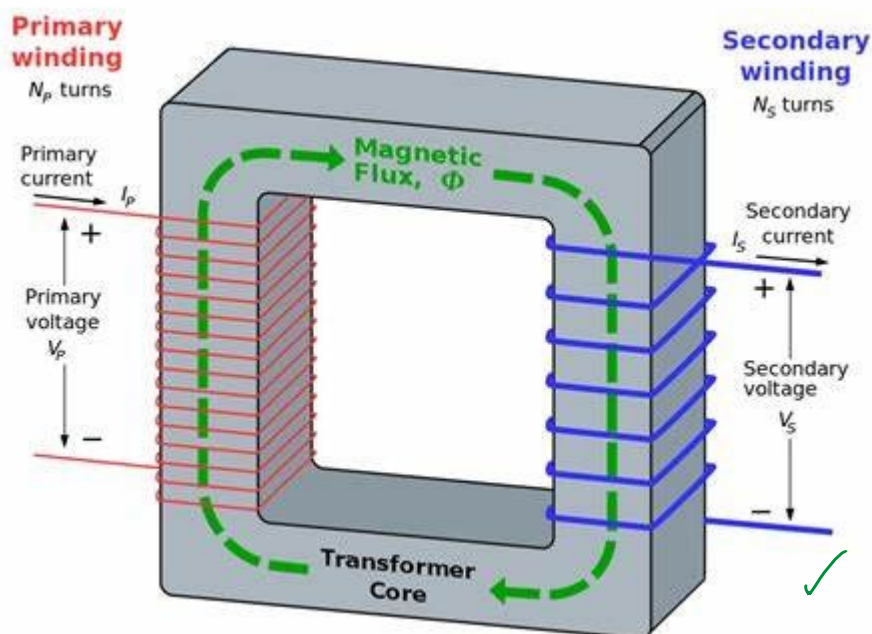

Figure 18 - Shows the principle of a Transformer
A transformer is an electrical device that contains two coils, these are the primary windings and the secondary windings, and they sit on the same steel/Iron core. Transformers will only work with an alternating current (AC) voltage. When an AC voltage is applied to the primary windings, this sets up an alternating magnetic flux throughout the steel/Iron core. This magnetic flux then induces an emf into the second winding. Both of these windings are linked by the same magnetic flux which means that the emf in both windings are proportional to the number of turns, so $\frac{V_p}{N_p} = \frac{V_s}{N_s}$. Transformers will always have eddy current losses which cannot be completely eliminated but can be reduced greatly. One way in which these losses can be reduced is by reducing the thickness of the steel/Iron core. To do this the magnetic core material is split up into many thin pressed steel shapes also known as laminations. By splitting the core metal into thin steel laminations eddy current is reduced as well as heat loss. To reduce heat loss even further most transformers are filled with transformer oil which cools and reduces the temperature of the transformers again. The diagram for a transformer can be seen in figure 18. ✓